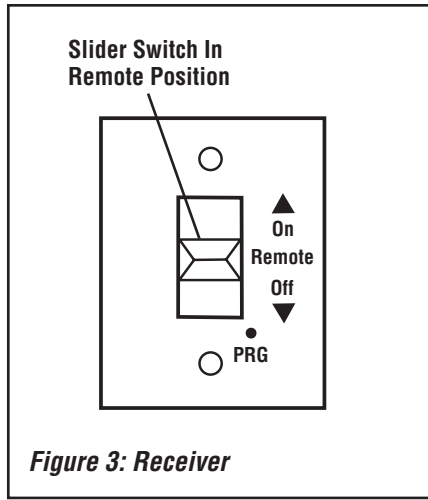

Figure 3: Receiver
Place the three position slider switch in the "Remote" position (see **Figure 3, next page**). Using the end of a paper clip, or other similar object, insert the end of the paper clip into the hole marked "PRG" on the Receiver front cover. The Receiver will "beep" three (3) times to indicate that it is ready to synchronize with a Transmitter.